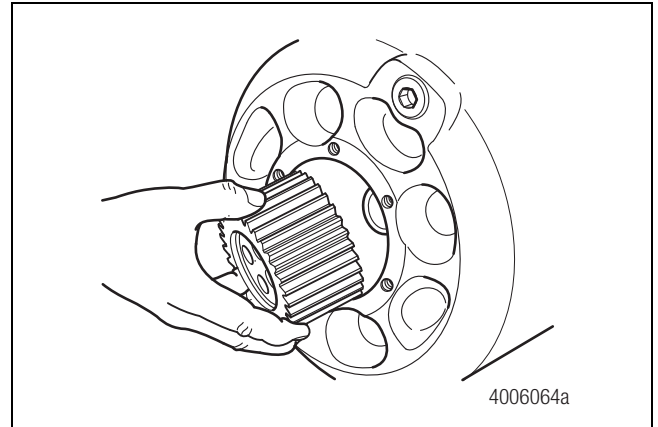
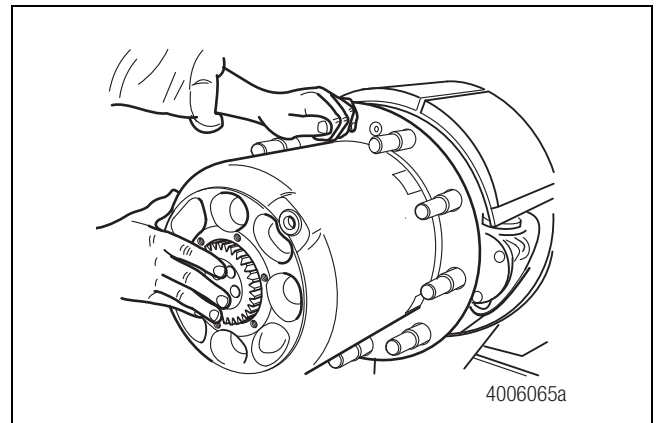

Figure 5.24
Figure 5.25
4. Insert the sun gear into the hub housing. Rotate the hub to engage the sun gear with the axle shaft splines and planetary gears. Figure 5.24 and Figure 5.25.